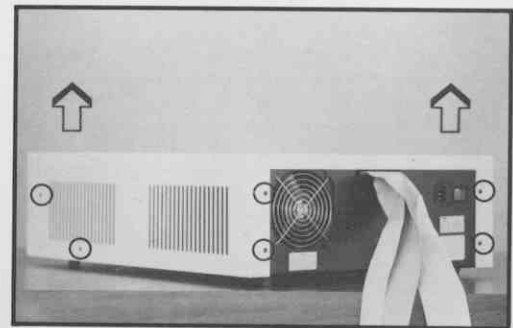

Figure 98 Outer Cover Removal
6.41 Lift the outer cover off the Subsystem unit (Figure 98).